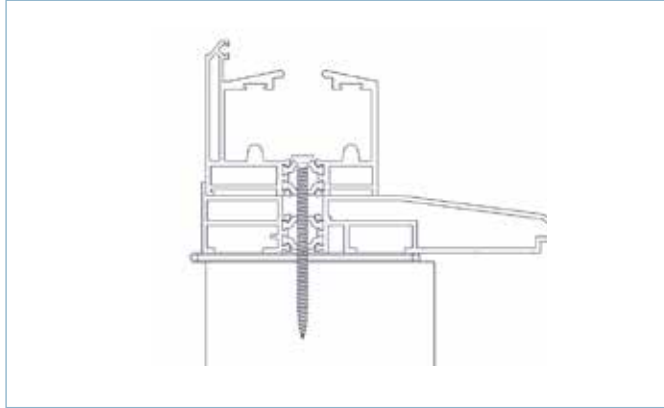

FIG 5A
▶ **5.1.** Fix the bottom track and cill as shown in FIG 5A. Position the fixings approximately 100mm in from each end of the track and one fixing every door width along the length. If there is no cill, fix the bottom track to the brick/ block below, making sure it is straight and remains level